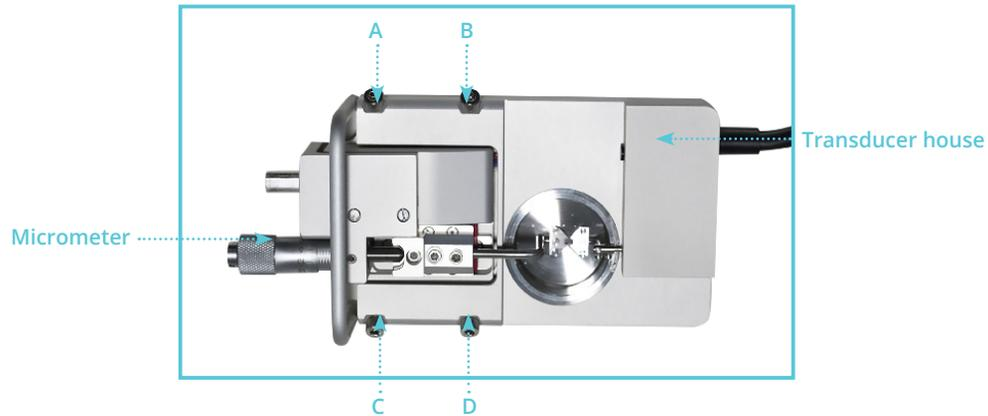
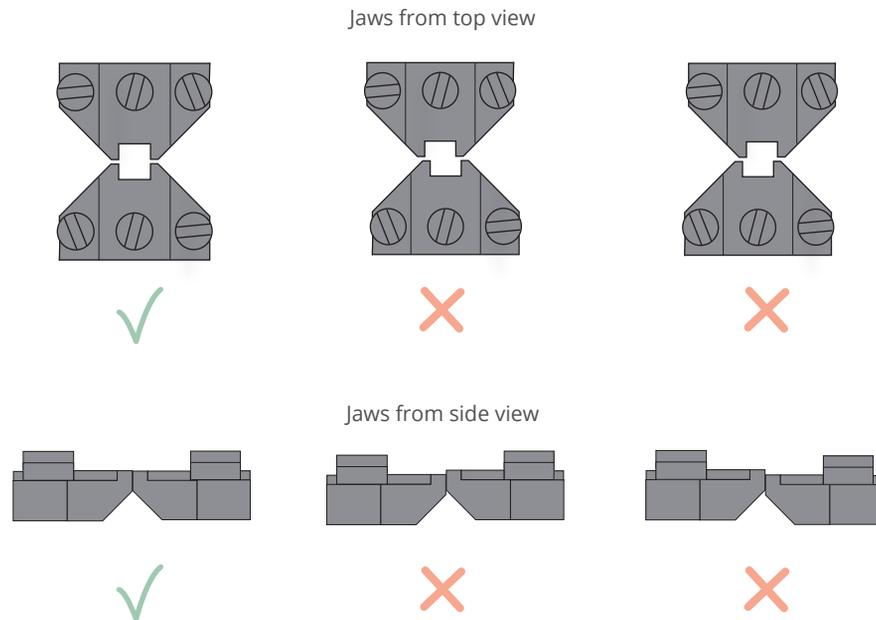

Figure 4.2 Fine adjustments of the jaws in the myograph chamber
Figure 4.3 - Illustrations of properly aligned jaws (depicted on the far left) and incorrectly aligned jaws (depicted in the middle and far right).
4.1.3 FINE-ADJUSTING THE JAWS FOR SMALL VESSELS (FIGURE 4.2 AND FIGURE 4.3):